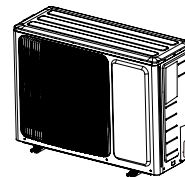

Fig.24
- (1) The pipes should be placed along the wall, bent reasonably and hidden possibly. Min. semidiameter of bending the pipe is 10cm.
- (2) If the outdoor unit is higher than the wall hole, you must set a U-shaped curve in the pipe before pipe goes into the room, in order to prevent rain from getting into the room.(As show in Fig.24)